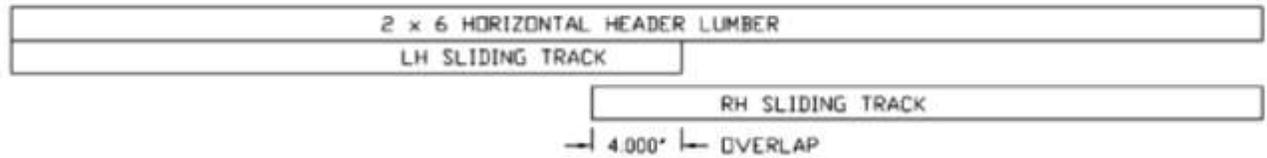

FIGURE 2 (TOP VIEW)
3. Install the sliding track (See Fig. 2). The sliding track comes in two pieces, and when installed they will overlap each other by 4 inches in the center which creates a seal in the center of the door. Install the mounting brackets onto each of the tracks. The LH track uses the single track bracket. The RH track uses the double track bracket and is installed in the space furthest away from the wall. Using the lags provided install the tracks with the mounting brackets onto the horizontal 2 x 6, ensure that that the bottom of the track is flush with the bottom of the 2 x 6.